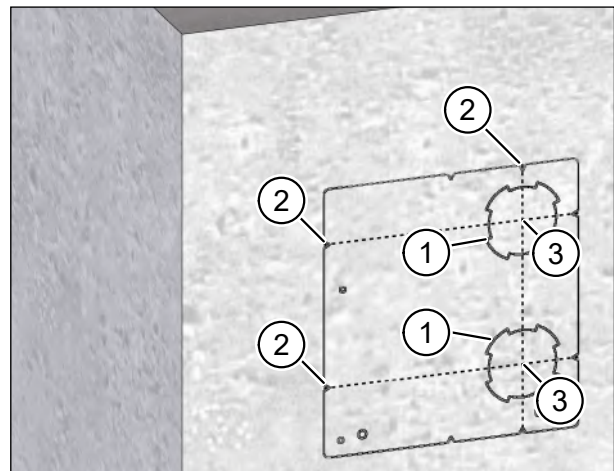

Fig. 17: Marks on the internal wall
- ▶ Mark the outlines (item 1 in Fig. 17) of the pre-punched contours for the core drill holes on the internal wall.
- ▶ Mark the six notches (item 2 in Fig. 17) of the drilling template on the internal wall.
- ▶ Draw the cross-hairs (item 3 in Fig. 17) for the core drill holes using the six marked notches.
- ▶ Check the marks for the core drill holes against Fig. 17.